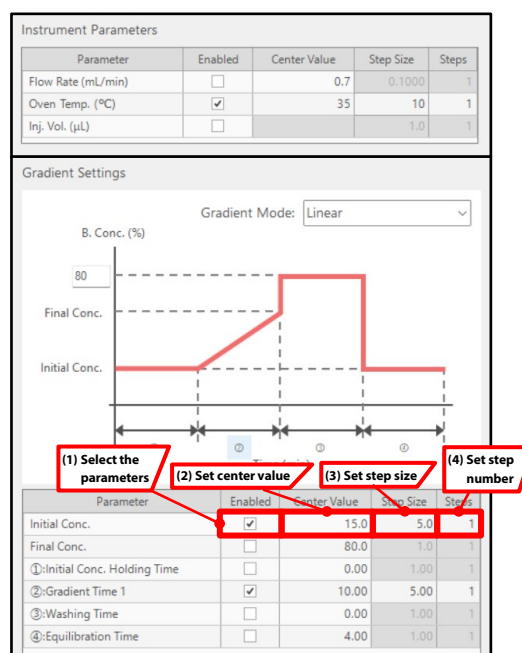

Fig. 2 Analysis Schedule Creation Screen
LabSolutions MD enables error-free automatic generation of analysis schedules (steps (1) to (4) in Fig. 2) under a comprehensive set of conditions. For example, when varying the initial gradient concentration (highlighted in red in Fig. 2), the input center value of 15% is automatically adjusted by ± 1 step at 5% intervals, resulting in a schedule covering 10%, 15%, and 20%. In this article, an analysis schedule was automatically generated to explore separation conditions comprehensively by varying the initial gradient concentration (10%, 15%, 20% : 3 levels, Fig. 3), gradient time (5, 10, 15 min : 3 levels, Fig. 3), and column oven temperature (25, 35, 45 °C : 3 levels).